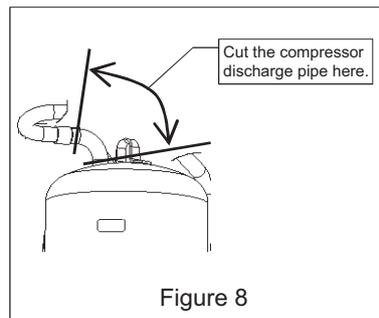

Figure 8
(9B) Mount a new four-way valve (21S4b). Figure 8 shows how to position a new four-way valve.
- (8) Remove the compressor discharge pipe by cutting the pipe where indicated in Figure 8 or by removing the braze.